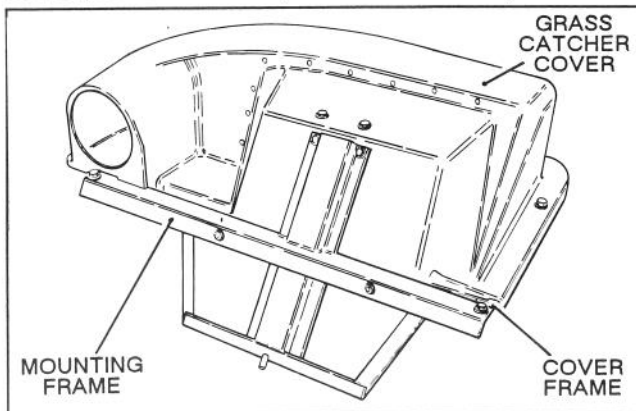

Figure 2
1. Loosely secure mounting frame to grass catcher cover frame with (2) 3/8-16 x 1" lg. capscrews, flatwashers, and locknuts as shown in fig. 2. Washers to be positioned on top side of assembly.
2. Secure mounting frame to grass catcher cover with backup plate, (4) 5/16-18 x 1" lg. capscrews, flatwashers, and locknuts (Figs. 2 & 3). Washers to be positioned on outside of grass catcher cover with backup plate inside cover. Tighten all mounting fasteners.